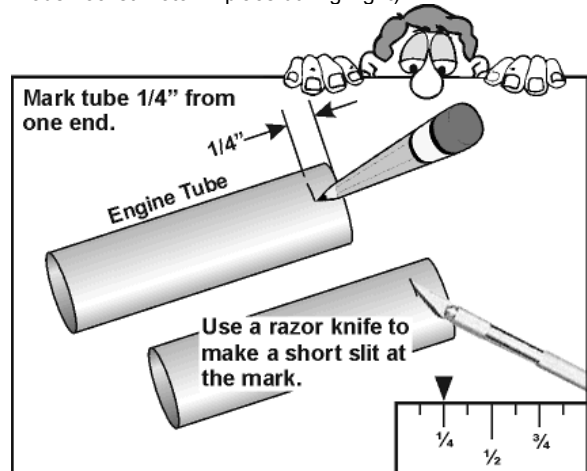

Figure 1
1. Make a mark on the **Engine Tube**  $\frac{1}{4}$ " from one end, as shown in **Figure 1**. Using a razor knife, cut a short slit in the tube, at this mark. **ADULTS** may wish to help with this step. (**Thing-a-ma-FACT:** The **Engine Tube** is used to hold the model rocket motor in place during flight)